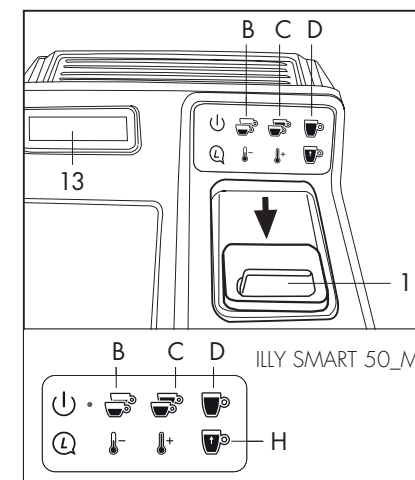

Fig. 14
- Close the door (1).
- Press one of the buttons (B) (C) (D) (H only for model Code 10003287) to start the type of preparation chosen and hold down the button until the desired dose is obtained. **(Fig.14)**
- The LCD display (13) shows the text "learning dosing".